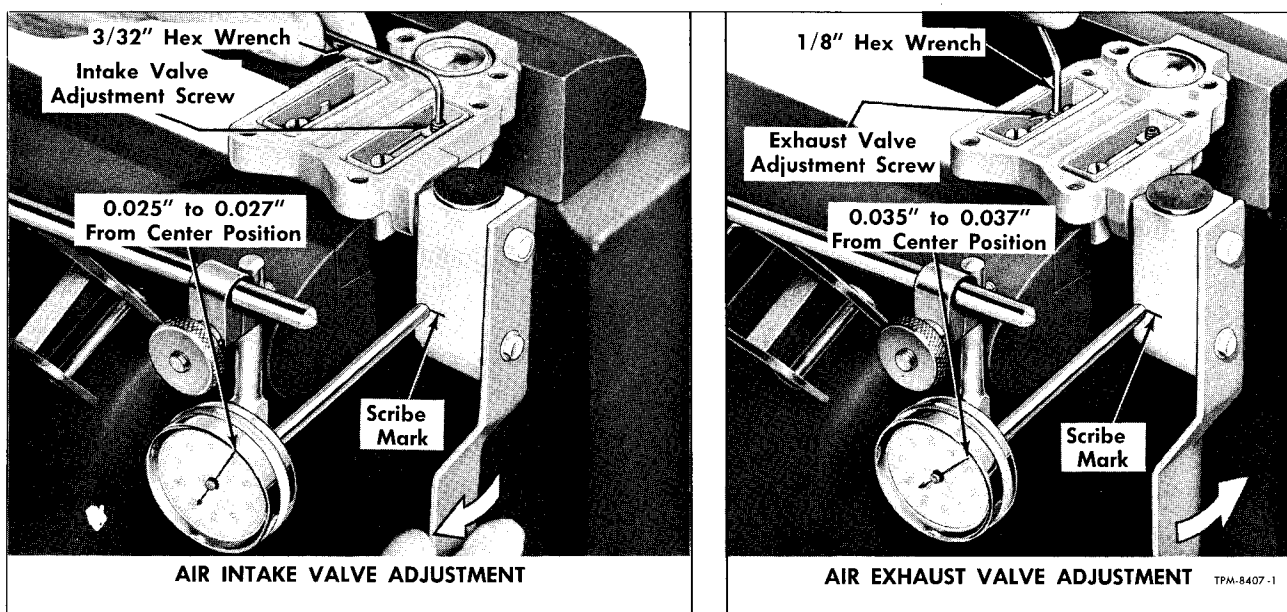

Figure 30—Method of Adjusting Air Valve Lever Gaps (Front Shown)
4. Starting at true center position, slowly move lever to where air intake valve just begins to open. Listen for escaping air. Note reading on dial at this point. Reading should be 0.025" to 0.027" from lever center position. On front valves, using a 3/32" hex wrench, adjust screw on intake valve lever (left view, fig. 30) until correct setting is obtained. On rear valves, bend lever to correct setting.
ed. Valve should open when overtravel lever is moved 0.035" to 0.037" from center position. On front valves, using a 1/8-inch hex wrench, adjust exhaust valve lever adjustment screw as shown in right view, figure 30 as required. On rear valves, bend lever to correct setting.
- b. On front valves using a 3/32" hex wrench adjust screw on intake valve lever (left view, fig. 30) until specified adjustment is obtained. On rear valves, bend lever to correct setting.